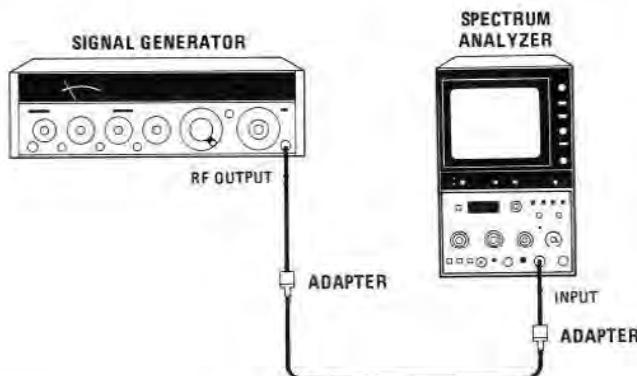

FIGURE 4-11. RESOLUTION BANDWIDTH SELECTIVITY TEST SETUP, 100 kHz TO 3 MHz
13. Connect equipment as shown in Figure 4-11.